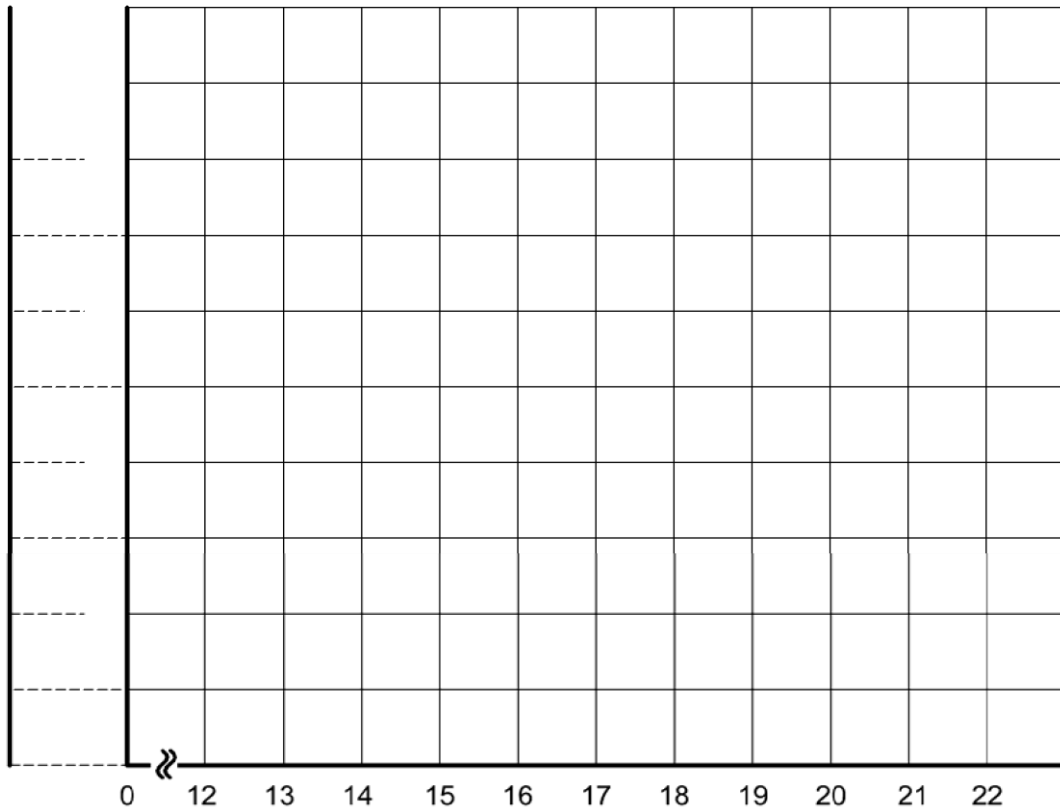

Fig. 2.3.2.3: Characteristics, $I = f(U)$ and $R = f(U)$ of the VDR
- Also, plot the values for U and R_{VDR} in the chart (Fig. 2.3.2.3) and draw the characteristic $R = f(U)$ by joining the points plotted.